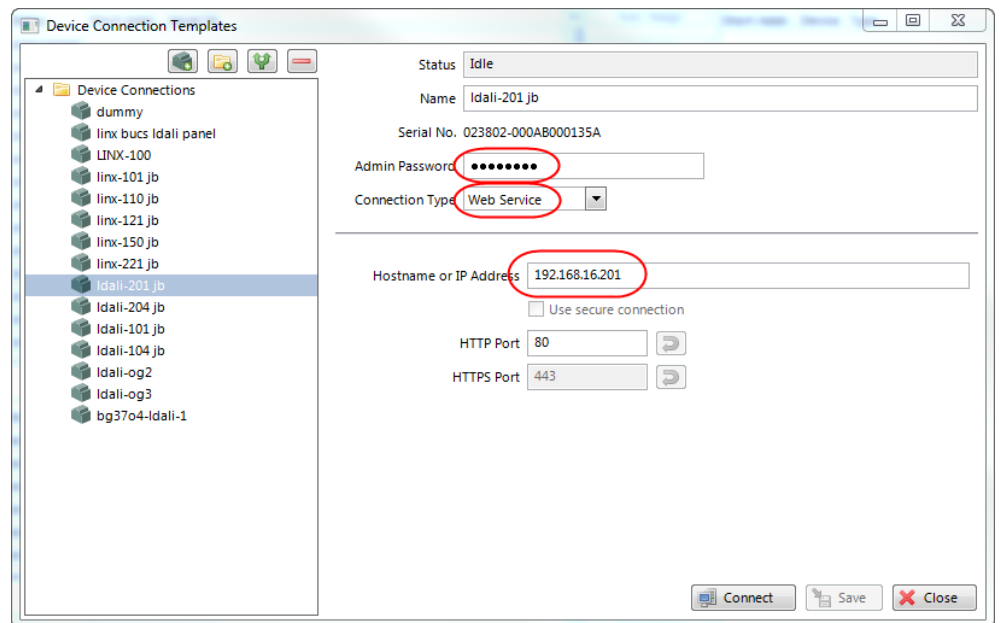

Figure 70: LINX Configurator software, Connection Dialog.
2. In the Connection dialog (see Figure 70) choose connection type “Web Service”, enter the IP address or hostname of the L-DALI and the devices “admin” password. The default “admin” password is ‘loytec4u’ (older firmware versions used ‘admin’).